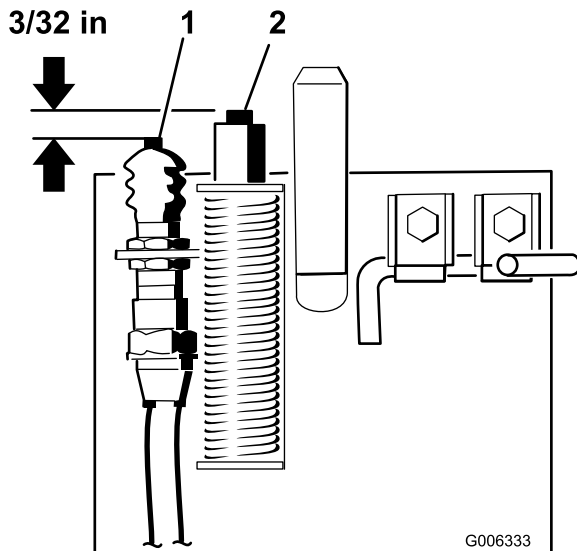

Figure 5
15. Adjust the jam nuts until the top of the switch button is $\frac{3}{32}$ inch lower than the top of the spring pin (Figure 5). Tighten the jam nuts to 75 in-lbs.